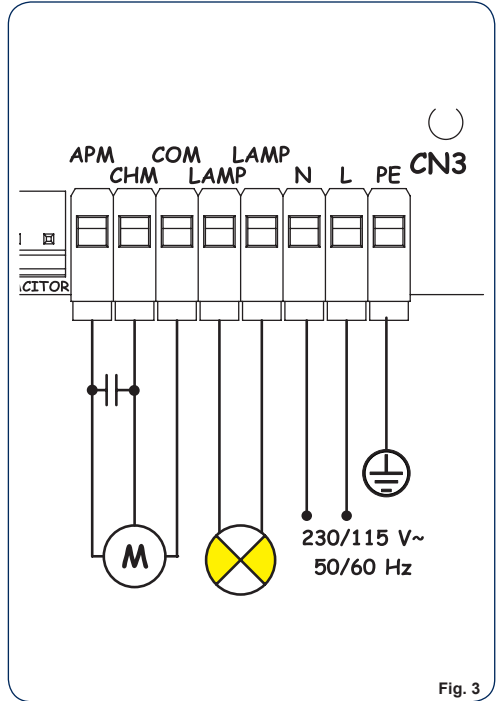

Fig. 3
5.3. TERMINAL BOARD CN3 (Fig. 3)	page 8